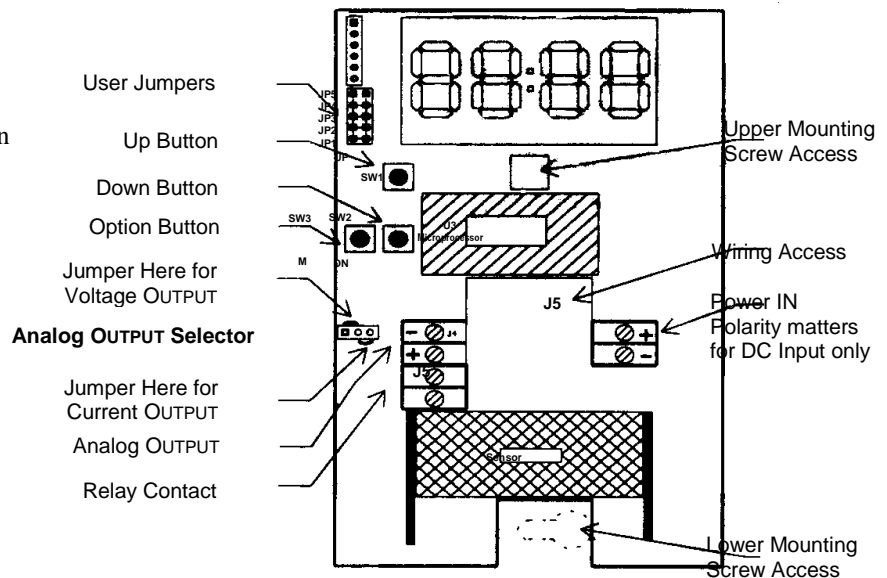

Figure 2: CD-1300-ST Series Component Location
To open the **CD-1300-ST** series use a coin in the slot on the bottom to release the snap. Lift the cover up slightly to disengage the closure and remove cover with a downward motion to clear the catch at the top of the unit. The locations of controls and terminals on the main circuit board are shown in the Figure 2.
The **CD-1300-ST** series will operate from an AC or DC input voltage between the values called out in the specifications in section 2.2. The power supply leads are connected to the two-terminal power connector shown in Figure 2.
Operation at voltages higher than specified will damage the unit and void the warranty. When operating from DC power, the polarity of the power leads must be as shown in Figure 2. Reversed polarity connection will not damage the unit, but will make it inoperable until the connection is reversed.
The **CD-1300-ST** series provides either a 0 – 10 volt or a 4-20mA current loop output at the two terminals of the analog output connector shown in Figure 2. The type of analog output is determined by the setting of the analog output selector shown in Figure 2. The analog output of the CD-1300-ST Series is completely isolated from the power supply. The common outputs of multiple units can be connected together with no interaction regardless of power supply hook-up.
NOTE whether the shorting block at jumper JP5 is covering both pins or only a single pin, then borrow the shorting block and slide it over the two pins of jumper JP4 (see Figure 2). The display (if present) will show 'SEL'
1. **NOTE whether the shorting block at jumper JP5 is covering both pins or only a single pin**, then borrow the shorting block and slide it over the two pins of jumper JP4 (see Figure 2 Section 3.3). The display (if present) will show 'SEL'.
4. **NOTE whether the shorting block at jumper JP5 is covering both pins or only a single pin**, then borrow the shorting block and slide it over the two pins of jumper JP2 (see Figure 2 Section 3.3). Use the 'UP' and 'DOWN' buttons to change the concentration to the value just calculated.
2. If there is no display on the unit being calibrated, connect a current or voltmeter to the analog output terminals. Check the setting of the analog output selector (see Figure 2 Section 3.3) to determine whether the unit is set for voltage or current output.
- *3. **NOTE whether the shorting block at jumper JP5 is covering both pins or only a single pin**, then borrow the shorting block and slide it over both pins of jumper JP2 (see Figure 2 Section 3.3).
5. If the reading differs by more than ± 75 ppm from the known concentration of the calibration gas, use the 'UP' and 'DOWN' buttons (see Figure 2 Section 3.3) to adjust the reading.
The setpoint value is adjusted by closing jumper JP3 (see Figure 2 Section 3.3). If the display is present when JP3 is closed it will show the current high limit setpoint in ppm CO₂.